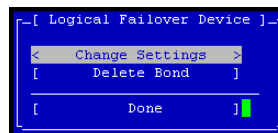

Figure 225. Deleting a NIC Bond
2. Tab to select the bond and press Enter. The Logical Failover Device window opens, shown in Figure 225.